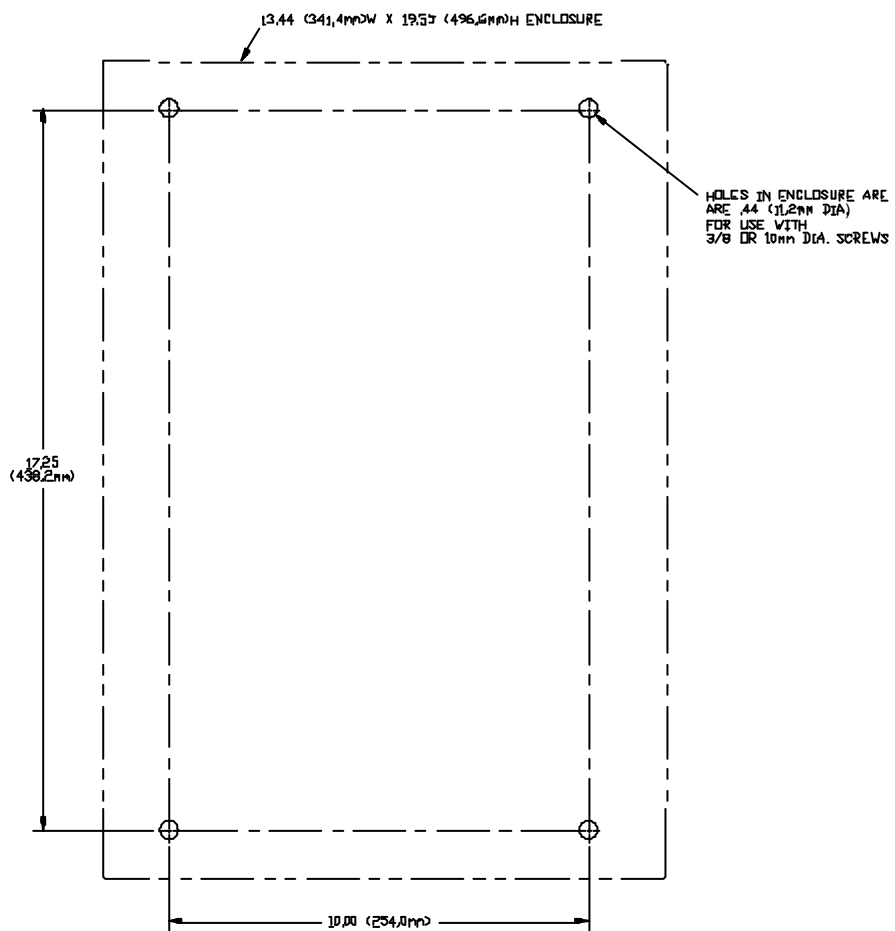

Figure 6. Mounting Hole Dimensions
1. Attach the control to a stationary, vertical surface, using the mounting holes located inside the control enclosure (see Figure 6).